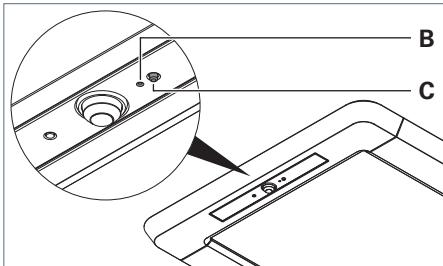
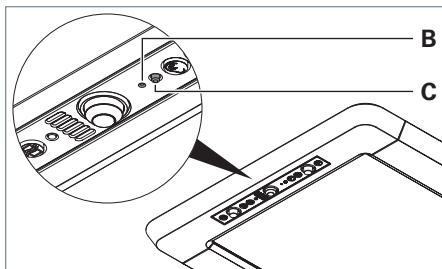

Fig. 19: Assigning the control element, version R.
Fig. 20: Assigning the control element, version RX.
- ▶ Press the key in the opening **B** with the end of opened paper clip, see Fig. 19 and see Fig. 20.
- ▶ Press the key **C**, see Fig. 19 and see Fig. 20.
- ▶ Press the key **C** and keep this key pressed, see Fig. 19 and see Fig. 20.